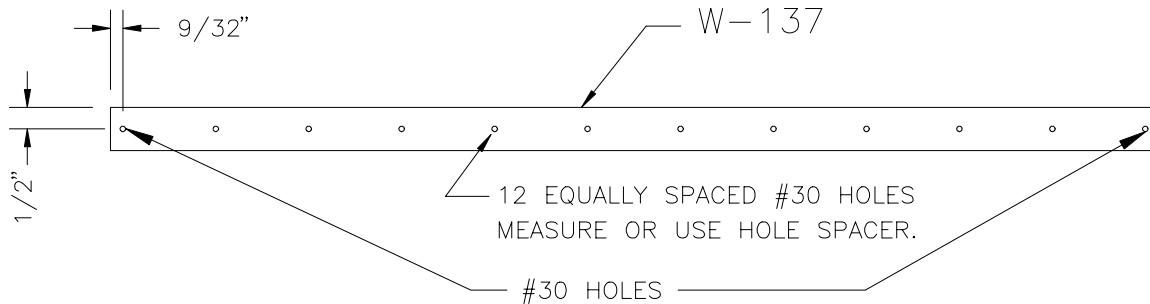

Figure 8.1.1
- 2) On one of the 24" Spar Caps (W-137) drill #30 holes 9/32" from each end. Figure 8.1.1.
- 3) Between these holes drill 10 equally spaced #30 holes for a total of 12 holes. Figure 8.1.1.